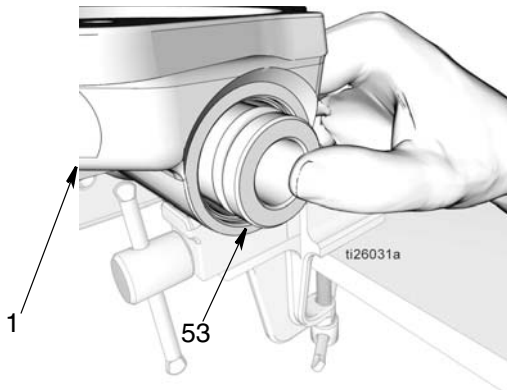

FIG. 45
- d. Use your thumbs to press the sleeve (53) into the pump base (1). Then using a soft rod, press the sleeve all the way down as far as possible (FIG. 45).